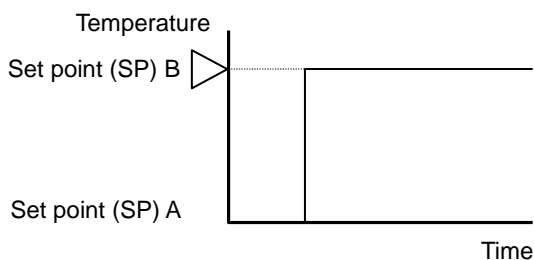

Figure 1. Ideal Temperature Control
The ideal temperature control, as shown in Figure 1, is to control the temperature to correspond with the set point (SP) regardless of any disturbances. There should be no overshoot or response delay of time until the temperature reaches the set point (SP).
In reality, the ideal temperature control shown in Figure 1 on the previous page is almost impossible to achieve due to a number of complicated factors such as thermal capacity, static characteristics, dynamic characteristics and disturbances.